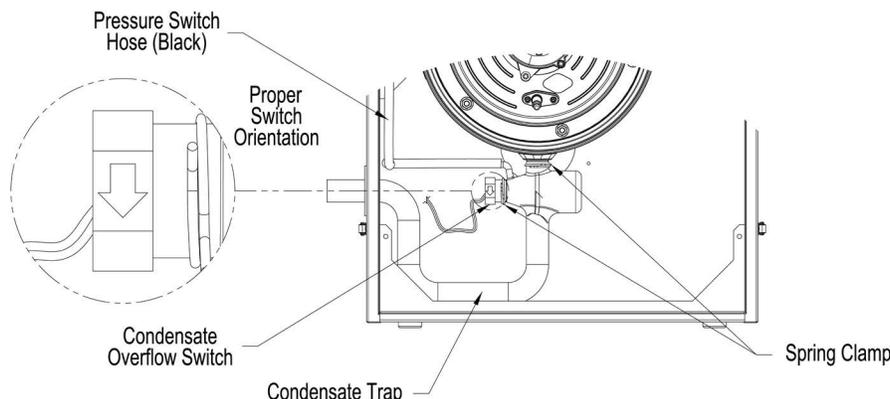

Figure 11-2: Condensate Overflow Switch Orientation
- Apply silicon sealant to the replacement switch threads and install the switch into the trap body making sure it is properly oriented - the arrow molded into the switch hex end side must face down for proper switch operation. See Figure 11-2 "Condensate Overflow Switch Orientation" for details.
- j. Ensure that fresh silicon sealant is applied to the overflow switch threads and the switch is properly oriented relative to the trap body - the arrow molded into the switch hex side end must face down for proper switch operation. See Figure 11-2 "Condensate Overflow Switch Orientation" for details.